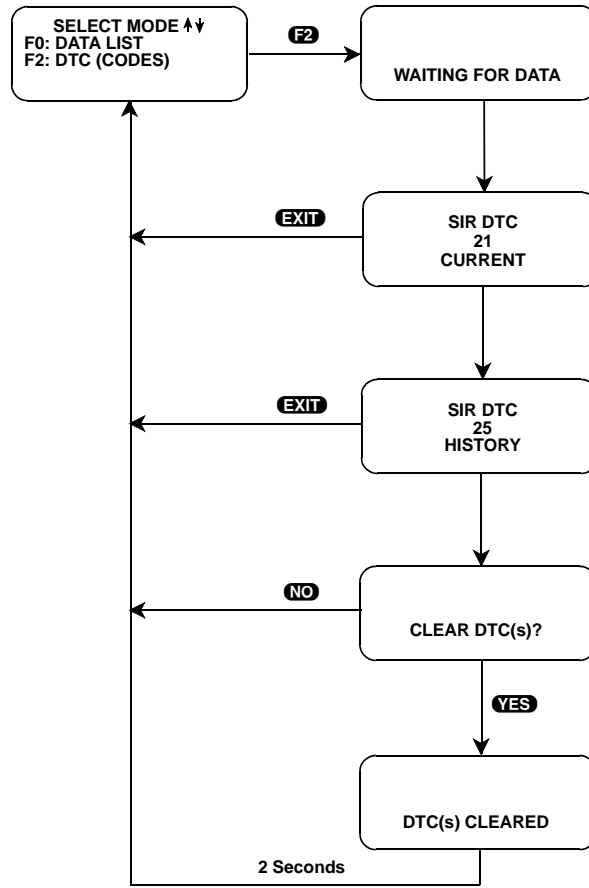

FIGURE 5-3. Example of MODE F2: DTC Display & Clearing for Airbag
6. For the ABS-VI system, the tester performs analysis on the codes which are present and displays information on the most likely cause of the codes. This information is displayed immediately after the ABS DTC display has been completed. See Figure 5-3.